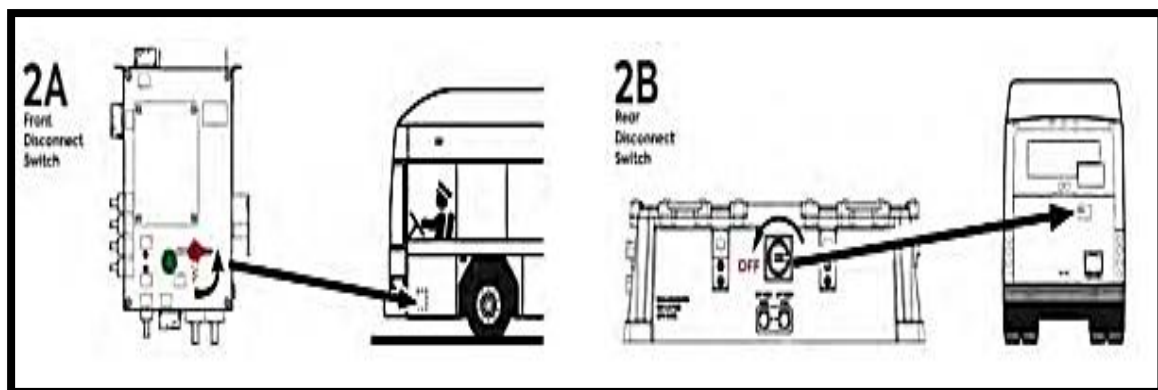

Fig. 4.18: Disable the system by rotating
5. Disable the system by rotating the 12/24V front disconnect switch 2A or by rotating the rear door disconnect switch 2B as shown in Fig. 4.18.